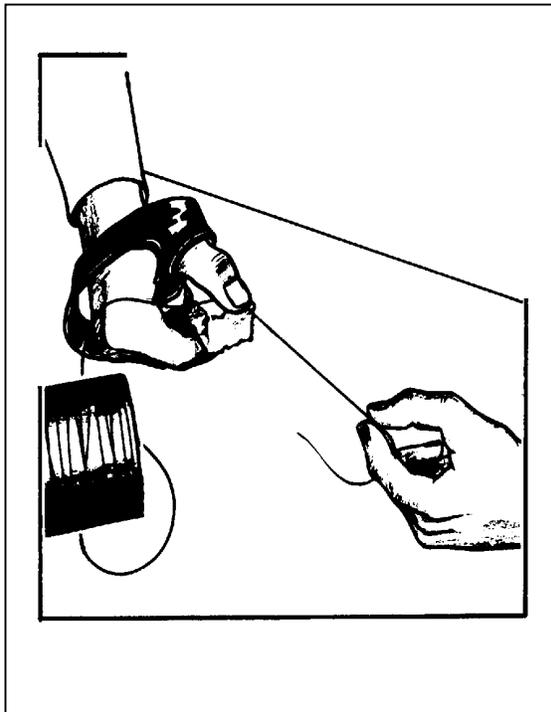
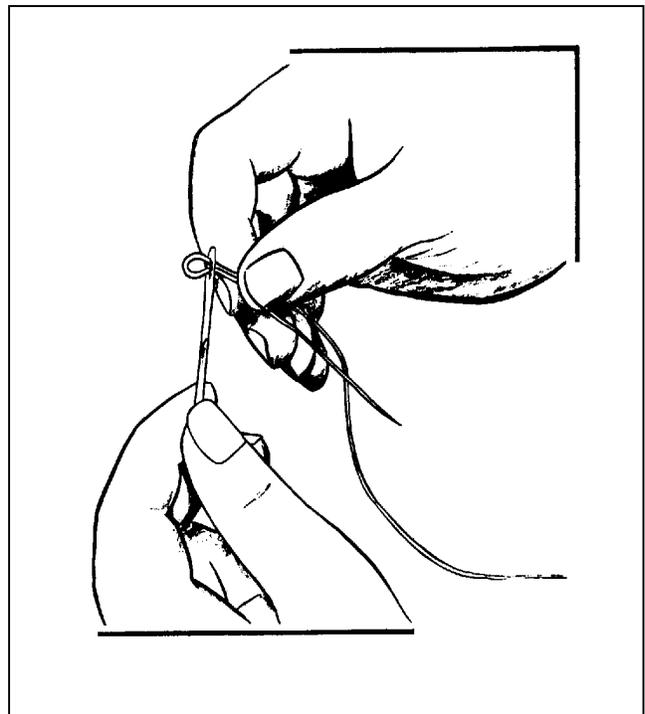

Figure 7-2. Waxing the thread
Figure 7-3. Threading a sailmaker's needle
b. Waxing the Thread. The fabric repair specialist uses technical beeswax (NSN 9160-00-253-1173) to wax the piece of thread to keep it from fraying and to protect it from mildew and the weather. Waxing the thread helps the thread to pass more easily through the hole made by the sailmaker's needle. To wax a piece of thread (Figure 7-2)--
- (1) Hold one end of the thread against the piece of beeswax with the thumb of one hand.
- (2) Grasp the thread, and pull the entire length of the thread across the surface of the beeswax with the other hand.
- (3) Repeat these steps until the thread is sticky.
c. Threading the Needle. The fabric repair specialist threads the needle with waxed thread. To thread a sailmaker's needle (Figure 7-3)--
- (1) Fold over the piece of thread to form a small loop. Make the loop near one end of the thread if two strands are used. Make the loop at a point halfway between the ends if four strands are used.
- (2) Stick the loop through the eye of the needle.
- (3) Pull half of the thread through the eye, and make the ends even.
- (4) Tie the ends in a knot.